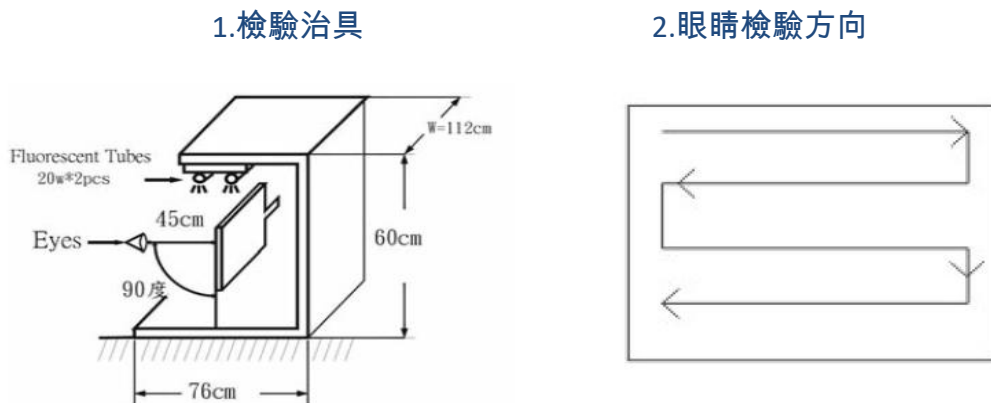

Figure 11-1
- (1) The inspection was performed with two 20W(1800±500 LUX) fluorescent lamp lighting from back or side. The panel was placed 45cm away from eyes. (Figure 11-1). 檢測始用之燈光為二盞20W(1800±500 LUX)白熾燈光，並於面板後側或上側照射，檢測時須放置在離眼睛45cm 處(Figure11-1)